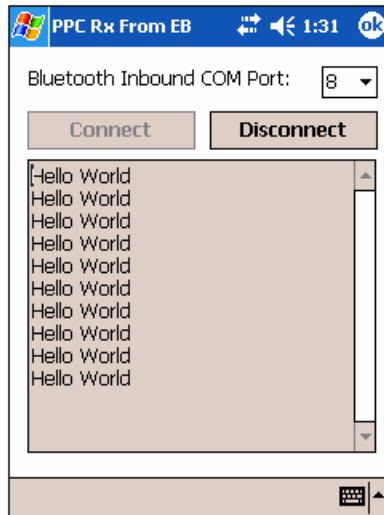

Figure 13: PPCRxFromEB Pocket PC Application
9. Run the **PPCRxFromEB** application (Figure 13).